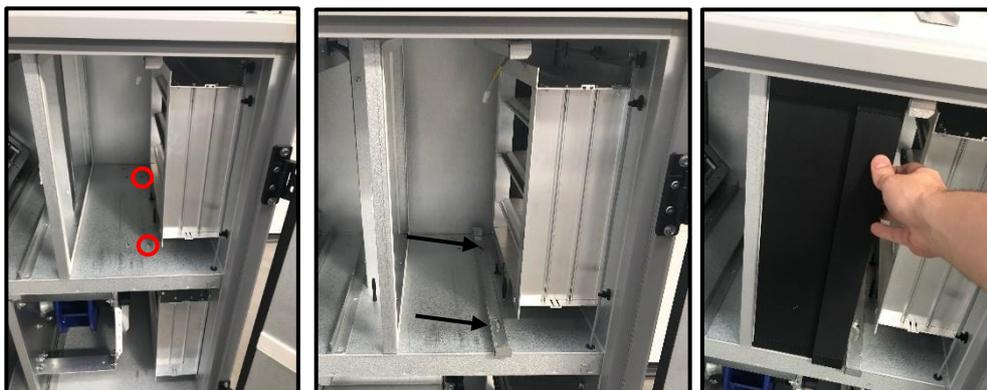

Fig. 80
2. Place the filter lock as shown below (Fig. 80)